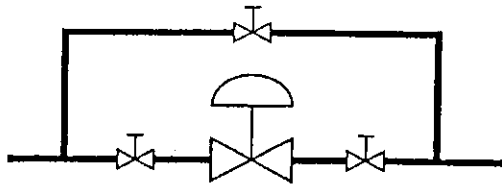

Figure 1
4.2 To allow for in-line inspection, maintenance or removal of the valve without service interruption, provide a manually operated stop valve on each side of the 78100 valve with a manually operated throttling valve mounted in the by-pass line. (See Figure 1).